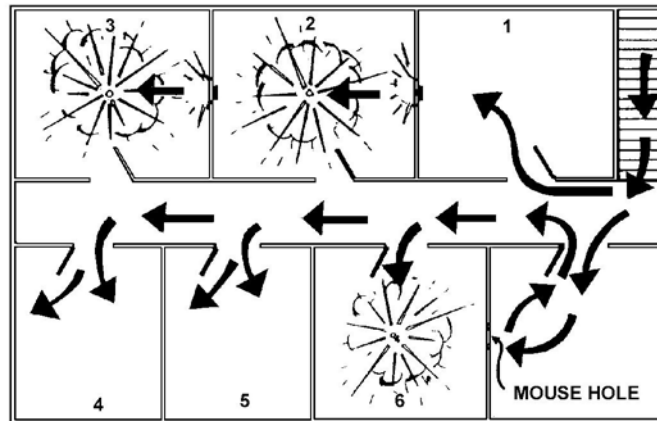

Figure 3. Clearing a building.
- c. Clear the building (Figure 3). The dismount element leader directs an assault team (covered by fire) to the point of entry. One man throws a grenade into the room. After the explosion, the assault team enters one man at a time, overwatched by the rest. The first man rushes in, firing his weapon in two- to three-round bursts, and takes a position that allows him to cover the whole room. The other men enter the room and make a quick, thorough search. One man remains inside the room to secure it.